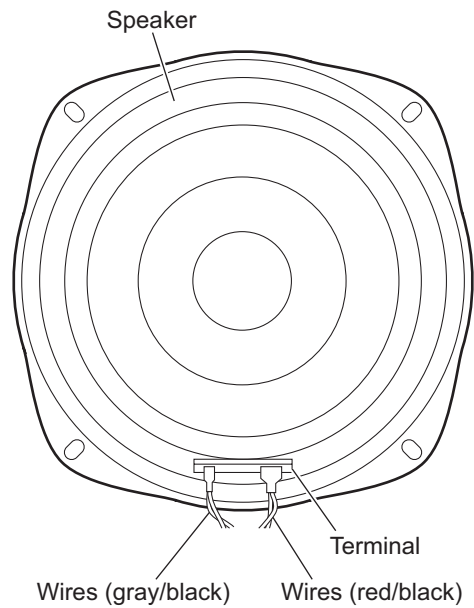

Fig.6
- (2) Take out the speaker from the speaker main body and disconnect the wires (red/black, gray/black) from the terminal of the speaker. (See Fig.6.)